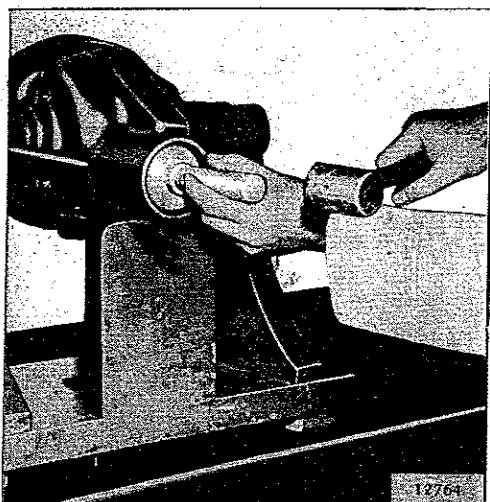

FIG. N-20—INSTALLING OUTER BEARING CUP
a. Install outer bearing cup using Tool W-264 on model 27 and W-126 on model 44 axles, as shown in Fig. N-20.